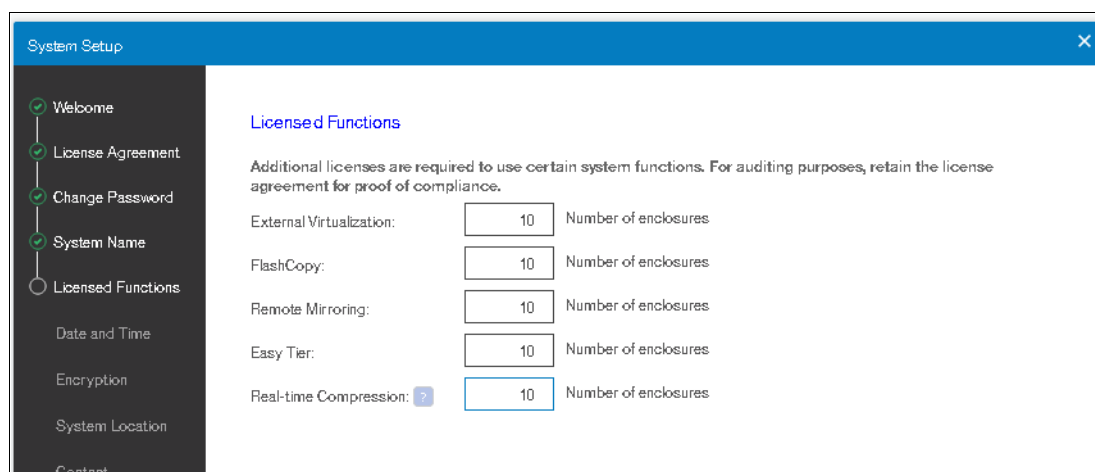

Figure 2-28 Setup wizard: Licensed Functions
8. In the next window, the Lenovo Storage V3700 V2, V3700 V2 XP, and V5030 GUI provide help and guidance about additional licenses that are required for certain system functions. A license must be purchased for each enclosure that is attached to, or externally managed by, the Lenovo Storage V3700 V2, V3700 V2 XP, and V5030. For each of the functions, enter the number of enclosures as shown in Figure 2-28 and click **Apply and Next**.